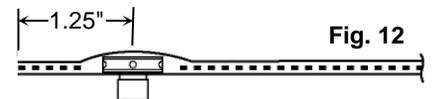

Fig. 12
9. Insert air fitting "head" into the hole in the bladder wall (Fig. 12).